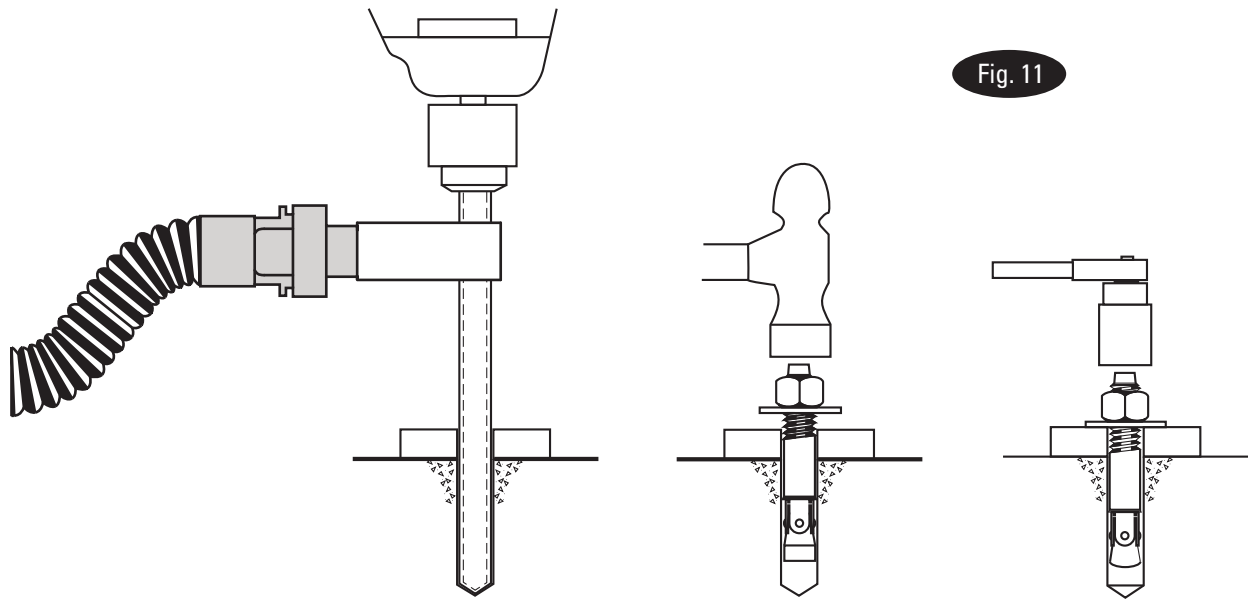

Fig. 11
- C. Use shims provided to shim column base to plumb columns, first fore and aft then side to side. Use a 4' level to check plumb of columns. Recheck  $\frac{5}{16}$ " gap between column and yoke with yoke spacer tool. Maximum shim thickness is 2", Fig. 12. If more shimming is required, consult factory for different shim package including longer anchor bolts. Drill four  $\frac{5}{8}$ " diameter holes through concrete floor using base holes as guide, Fig. 11. Repeat for other columns.
- D. Insert base anchors, Fig. 11. Repeat for other columns. Tighten nuts. Recheck columns for plumb. Re-shim if necessary. Torque anchor bolts to 60 ft. lbs., Fig. 11. If anchor bolts do not hold when torqued to required amount, concrete must be replaced. Saw cut and remove 24" x 24" square area under each column base. Repour with reinforced # 3000 minimum concrete to depth of 6", keying new concrete under existing floor.